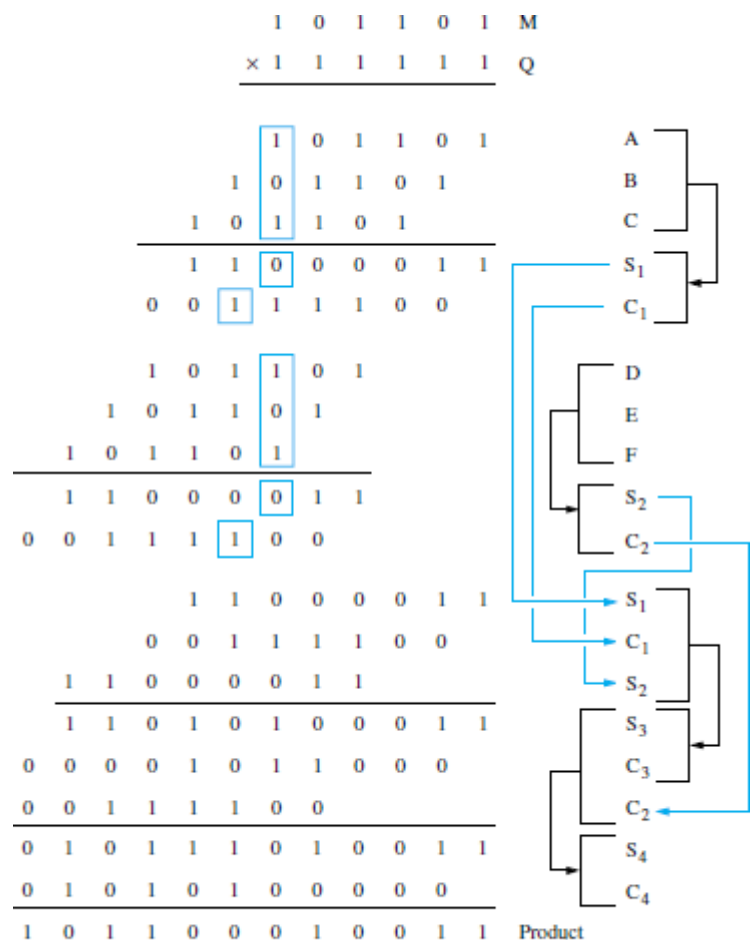

Figure 9.18 The multiplication example from Figure 9.17 performed using carry-save addition.
- Consider the addition of many summands in fig 9.18.